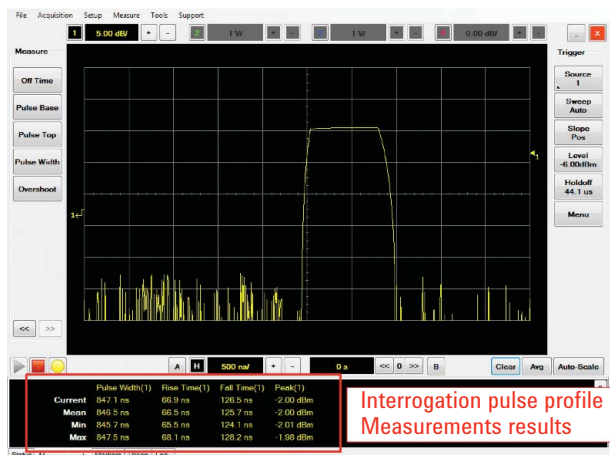
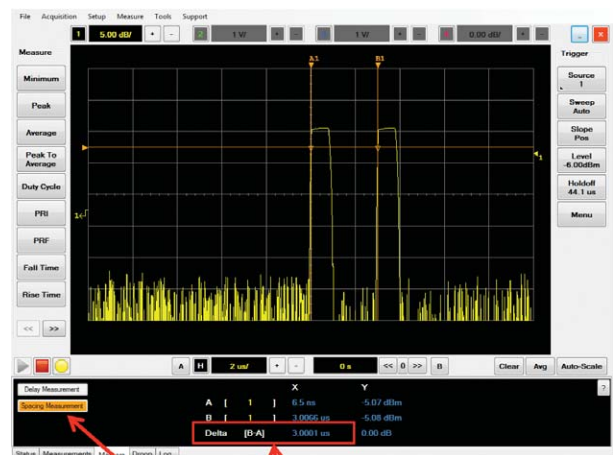

Figure 4a. Interrogation pulse profile measurement on the 8990B PPA
Figure 4b. Interrogation double pulse spacing measurement on the 8990B PPA
4. Use the 8990B PPA to measure the interrogation pulses as shown in Figures 4a and 4b.
- Note: The pulse shaping measurements such as peak power, pulse width, rise time, and fall time can be easily obtained using the pulse measurement menu tab on the 8990B PPA shown in Figure 4a. The interrogation double pulse spacing can also be measured and verified on the 8990B PPA using the markers-spacing feature as shown in Figure 4b.